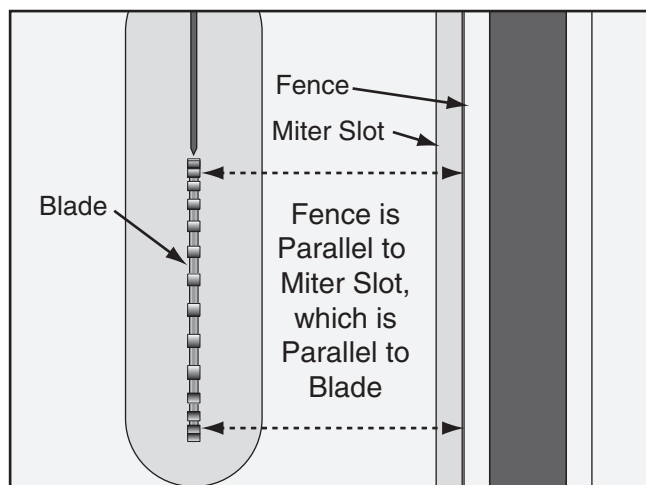

Figure 138. Checking fence parallelism with blade.
- Slide the fence up against the right hand edge of the miter slot, lock it in place, then raise the blade above the insert. Using a fine ruler, examine how the fence lines up with the miter slot and the blade, as shown in **Figure 138**.
—If the fence and miter slot are parallel with the blade, as shown in **Figure 138**, no further adjustments need to be made.
5. Rotate the blade 180° and recheck the distance between the fence and the blade tooth you marked in **Step 4** to ensure they are parallel (see **Figure 138** on **Page 71**).